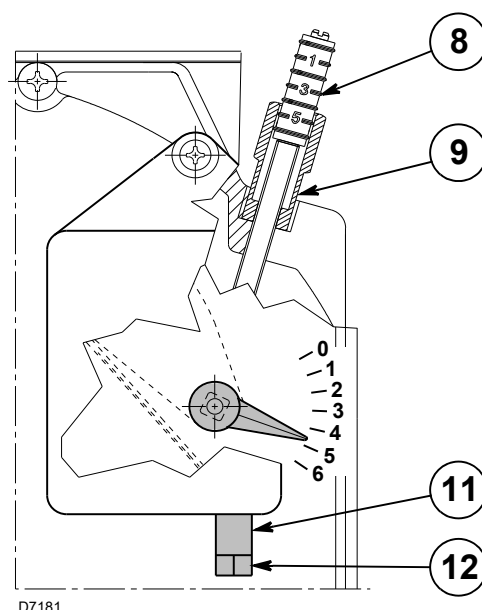

Fig. 14
The first start up should always be carried out using the screw 12)(Fig. 14), so that the 1st stage air damper position indicator is greater than notch 1, (factory setting notch 1).
- Loosen the nut 9) and use the screw 8)(Fig. 14) to adjust the 2nd stage air flow (see CO₂ values in the Tab. T).
- Adjust the 1st stage using the screw 12) after loosening (clockwise) the nut 11)(Fig. 14) referring to the table below for the CO₂ values.
- Once the ideal setting has been reached, block (anti-clockwise) the nut 11)(Fig. 14). When the burner stops, the air damper, due to the pressure of its weight, automatically closes, up to a max. flue depression of 0.5 mbar.